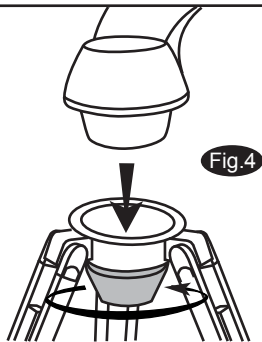

Fig.4
ATTACHING THE MOUNT TO THE TRIPOD (Fig.4)
- 3) Slide in the telescope tube. Close the cradle ring and insert the black screw from the opposite side of the arm as shown in Fig.4. Tighten the screw until the telescope tube is securely fastened inside the cradle ring.